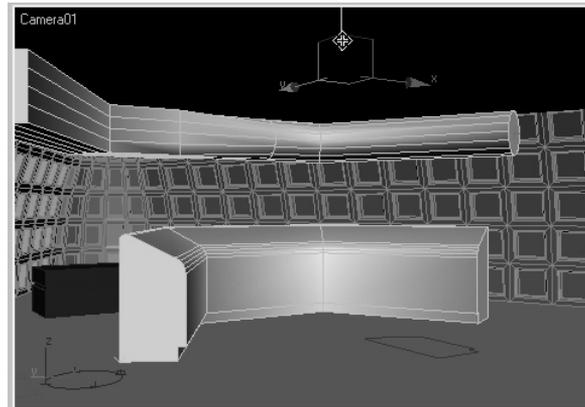

FIGURE 9.30 Move the Ceiling01 object up to reveal the entire duct.
2. On the main toolbar, click the Select Object button and select the ceiling object. Click the Select and Move button and move the ceiling object up so that the duct shows in the room (see Figure 9.30).